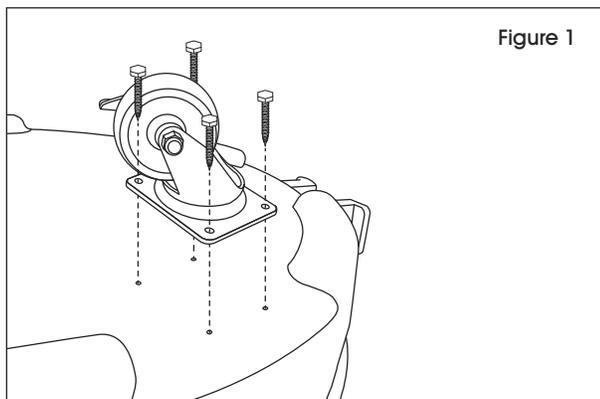

Figure 1
2. Align caster with mounting holes on bottom of bogie and attach using included screws. (See Figure 1)